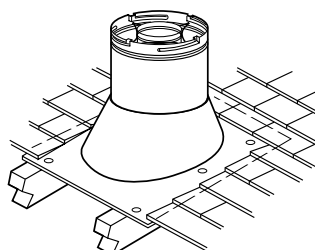

Figure 25
I. Install the roof flashing - Extend the vent sections through the roof structure. Install the roof flashing over the vent section and position such that the vent column rises vertically (use carpenter's level) (**Figure 25**). Secure along perimeter to secure flashing or adjust roofing to overlap the flashing edges at top and sides only and trim where necessary. Seal the top and both sides of the flashing with waterproof caulking.